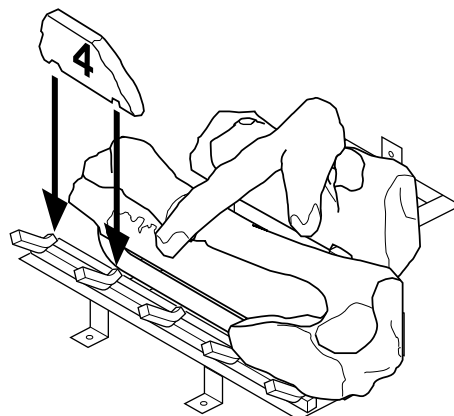

Figure 56 - Installing Log No. 4
4. Place log #4 (small log) onto the front left part of the grate making sure the notches fits over the prong of the grate. See Figure 56.